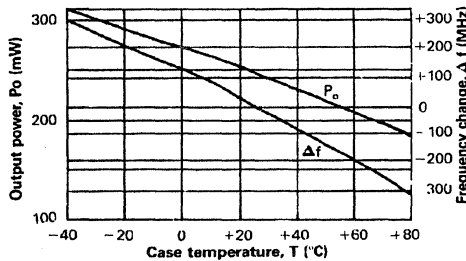

Fig. 2a Variation of Power and Frequency with Temperature for a DC1276H Device Operating in the Fundamental Mode.
- Typical variations of frequency and power with temperature are shown in Figures 2a. and 2d. An adequate heatsink must be provided so that the rated stud temperature is not exceeded.